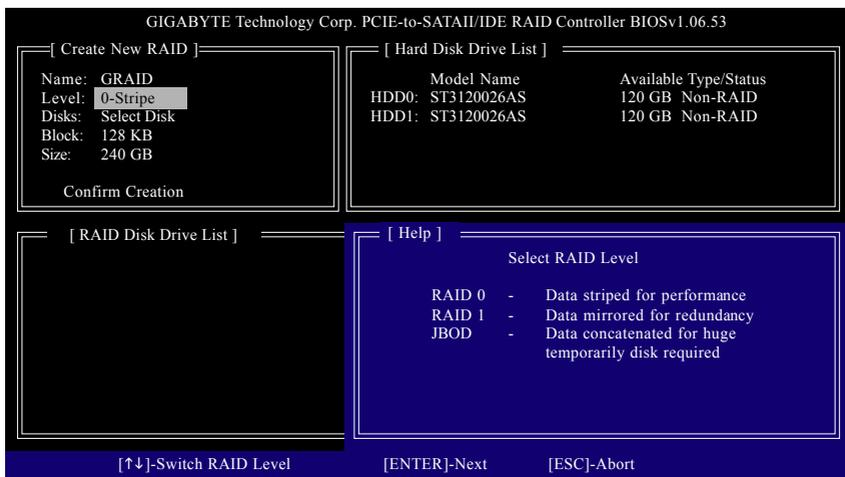

Figure 6
2. **Select RAID Mode:** Under the **Level** item, use UP or DOWN ARROW key to select RAID 0 (Stripe), RAID 1 (Mirror), or JBOD (Figure 6). Then press ENTER to move onto the next step.